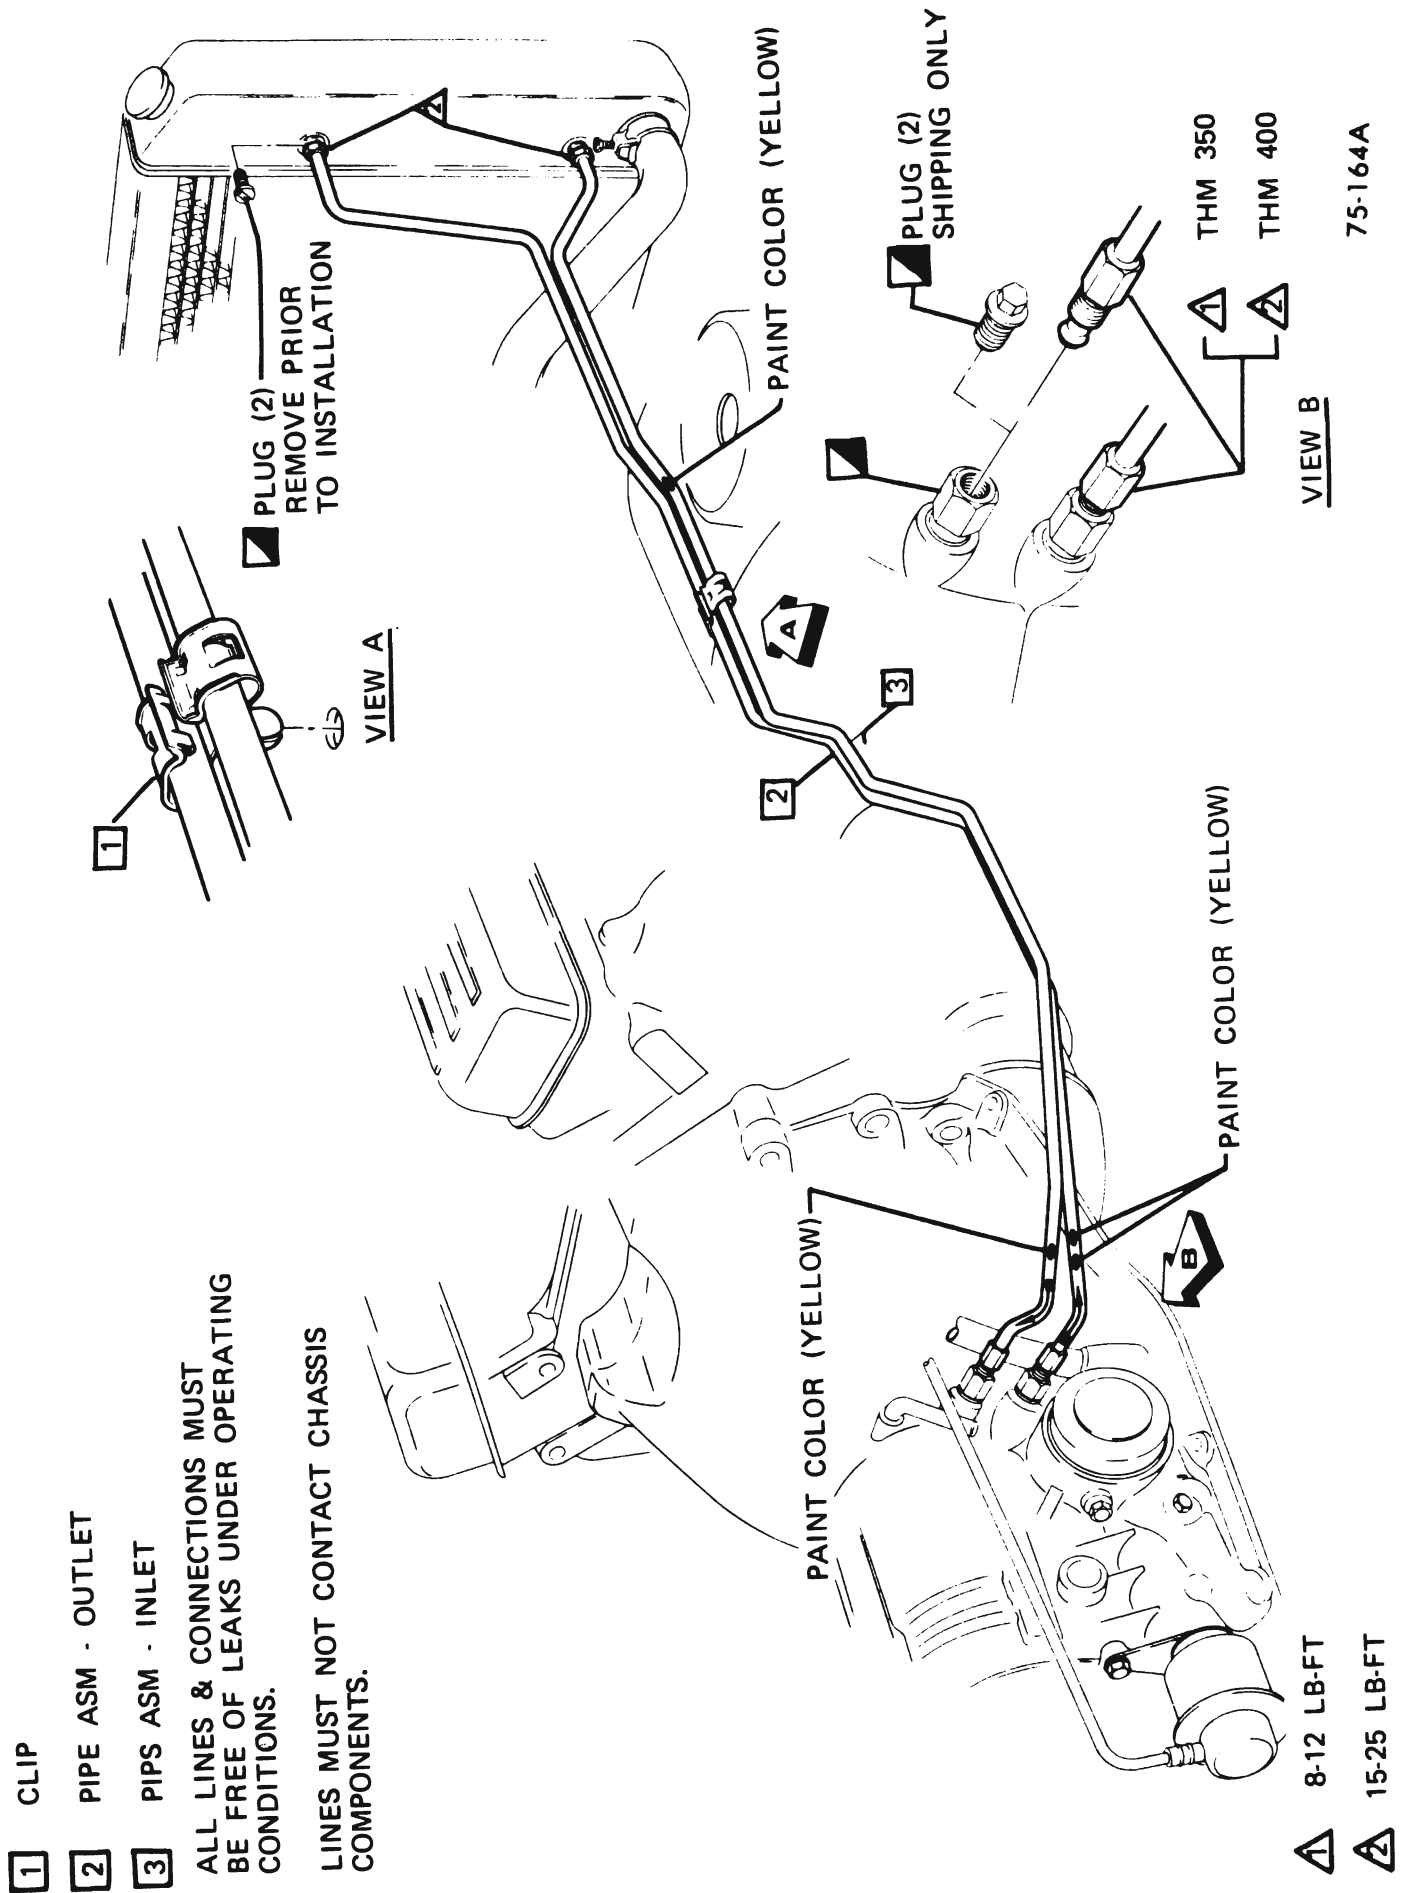

Figure 75-67 - Oil Cooler Lines (4D-4F-4G-4H Series)
See Figure 75-67.
13. Install oil cooler lines to transmission. See Figure 75-67.